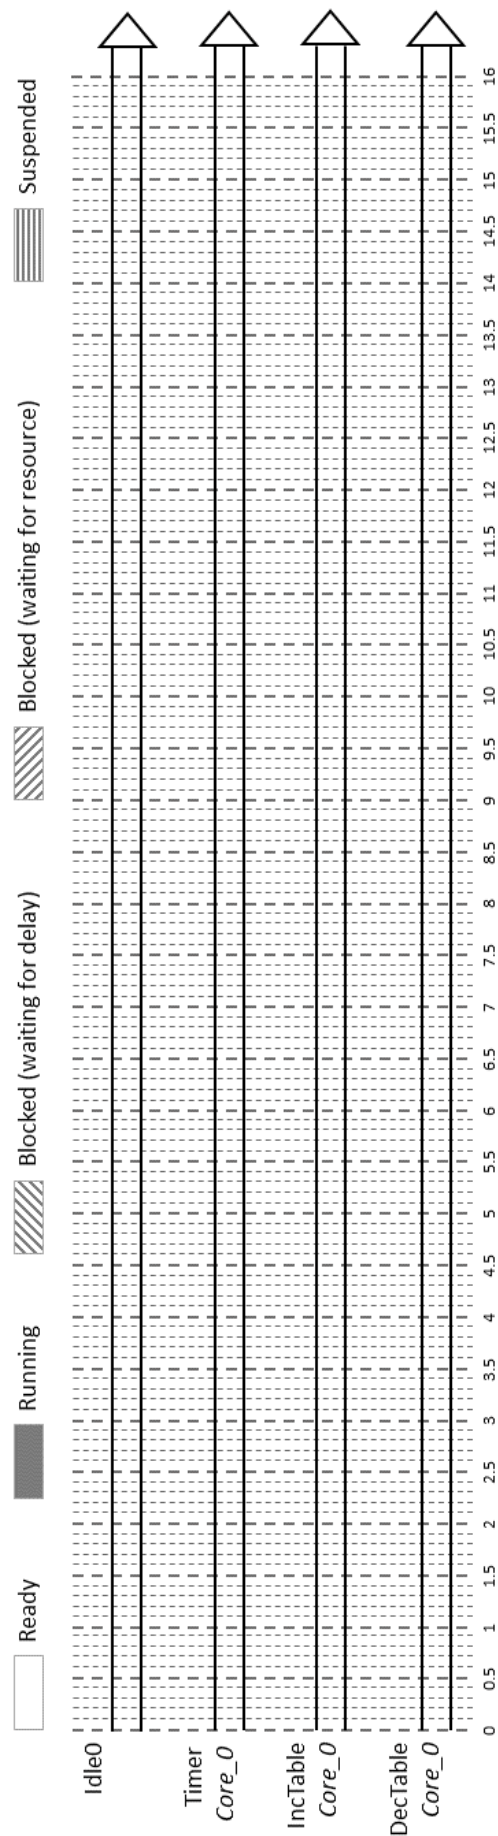

FIGURE 3.4 – Scenario 2 : Priority(DecTable=4, IncTable=3), Core(DecTable=0, IncTable=0).
**Scenario 2 :** Run the program, copy the console, trace in the figure 3.4 the behavior of the 3 tasks until 160 ticks and explain the behavior.